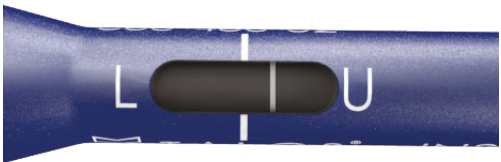

Figure 3
A. Rotate the knob in the counter-clockwise direction as indicated in Figure 3 so that the laser line is in the “U” or unlocked zone.
A1. Once the marker in the window of the inserter body shifts to the “U” (unlocked) side, the inserter can be removed from the implant (See Figure 3).